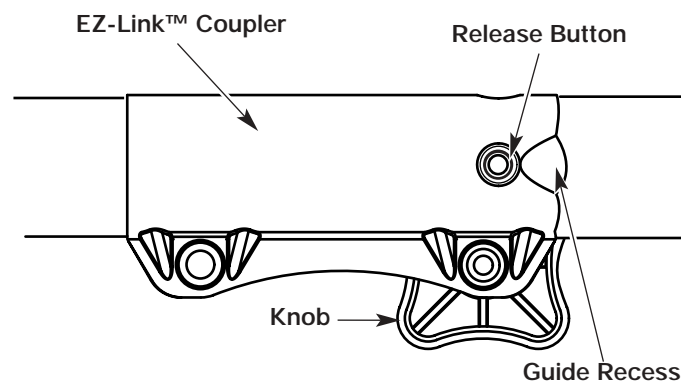

Fig. 9
1. Turn the knob counterclockwise to loosen (Fig. 9).
2. Press and hold the release button (Fig. 9).
1. Turn knob counterclockwise to loosen (Fig. 9).
NOTE: Aligning the release button with the guide recess will help installation (Fig. 9).